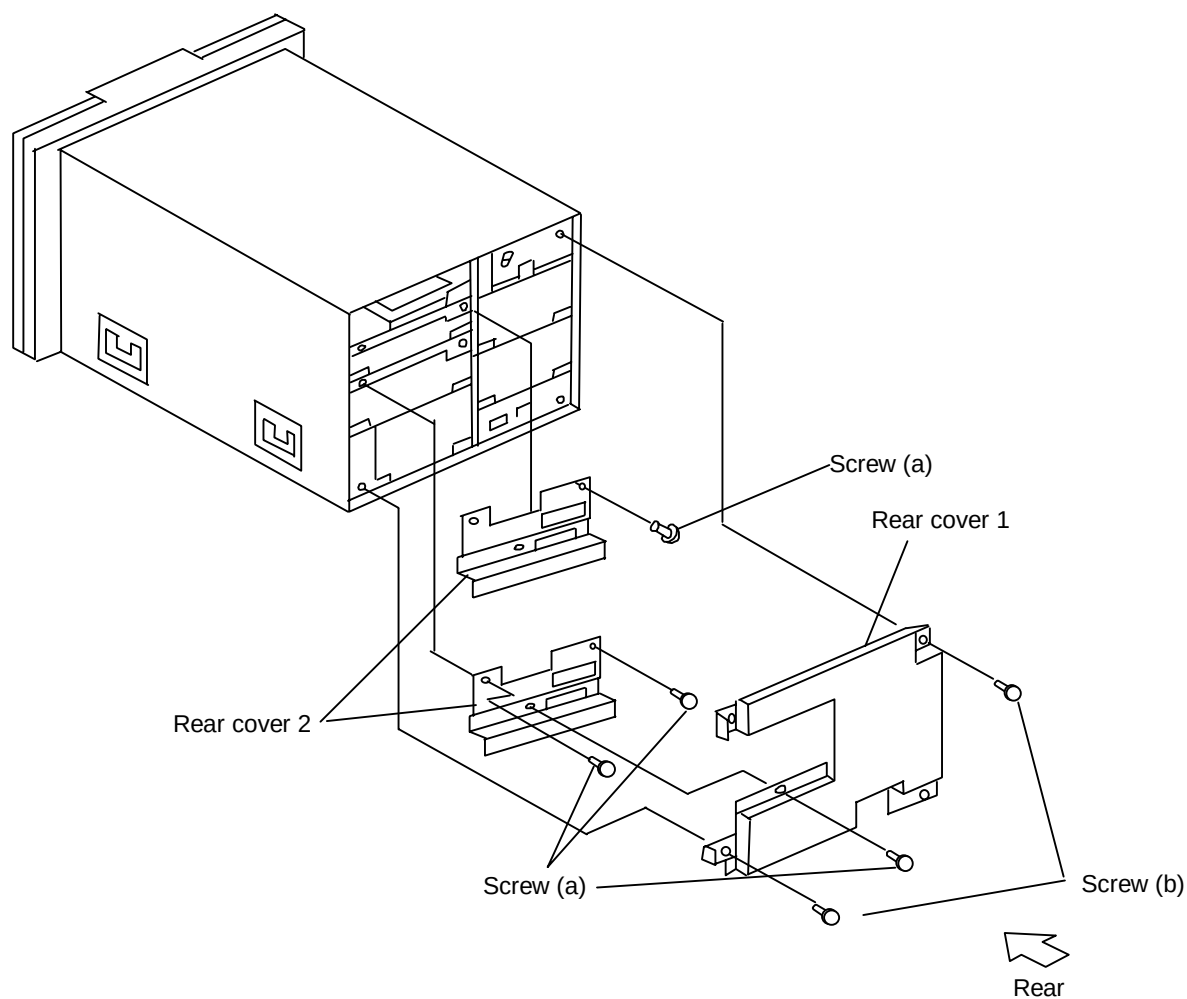

Figure 2.5.3 Opening/Closing the Rear Cover
(1) Removing procedure (See Figure 2.5.3.)
- ① Remove (a) screw and 4 (b) screws, and remove rear cover 1.
- ② Remove 4 (a) screws of 2 rear cover 2s, and remove rear cover 2s.
(2) Installing procedure. (See Figure 2.5.3.)
- ① Fix rear cover 2 then rear cover 1 in the reversed order as removing procedure.